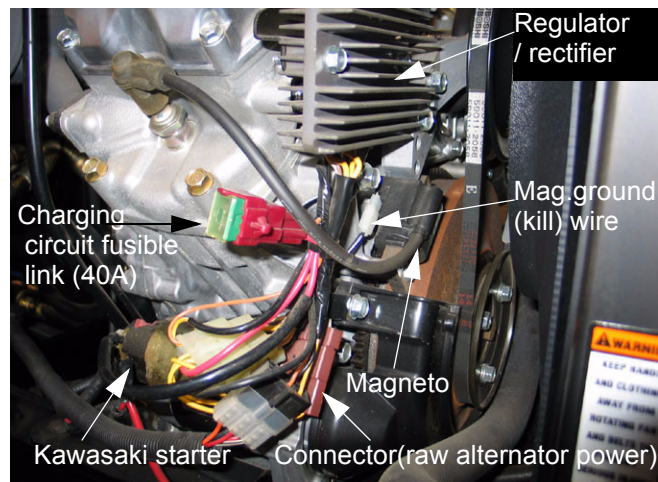

Figure 1.11
1.11. The gasoline engines use flywheel mounted rotors and engine mounted stators to generate A.C. current. The current is processed through regulator-rectifier modules before being passed to the main harness of the tractor. See Figure 1.11.